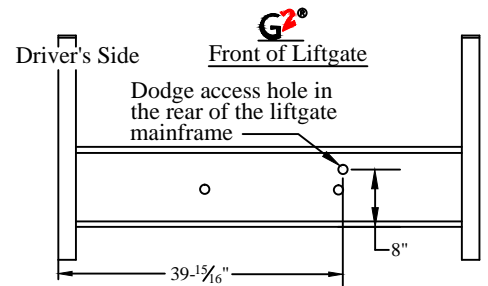

Figure 17: G2 spare tire access.
2. **Remove** the black plastic plug from the mainframe in the locations shown (Figure 17).